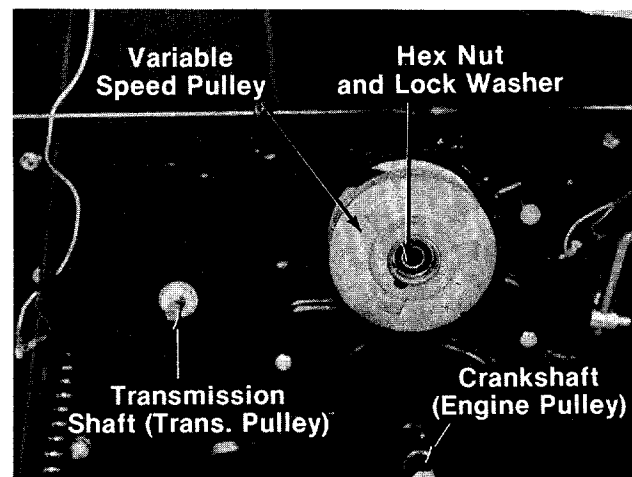

FIGURE 43.
4. Remove the variable speed pulley by removing the hex nut and lock washer shown in figure 43. A 3/4" wrench is required. Slip off variable speed pulley and both drive belts.